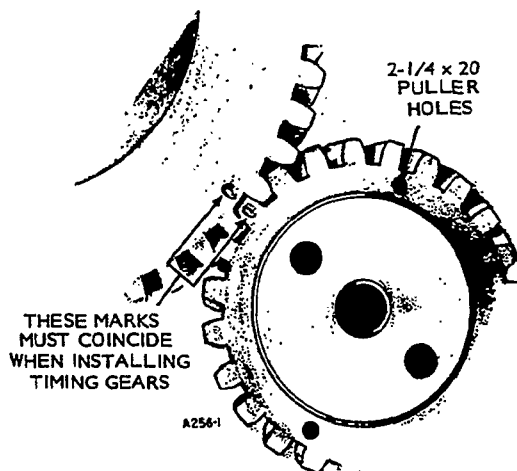

FIGURE 114. TIMING MARKS
5. Install camshaft assembly in engine. Align timing marks on camshaft gear and crankshaft gear. See Figure 114.